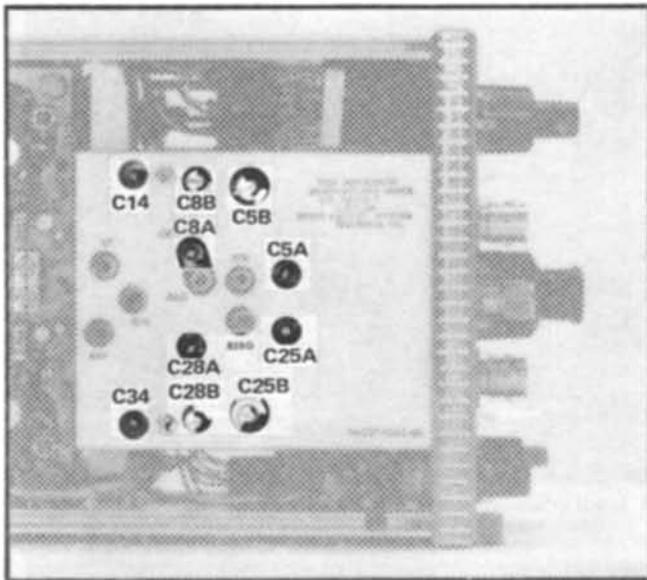
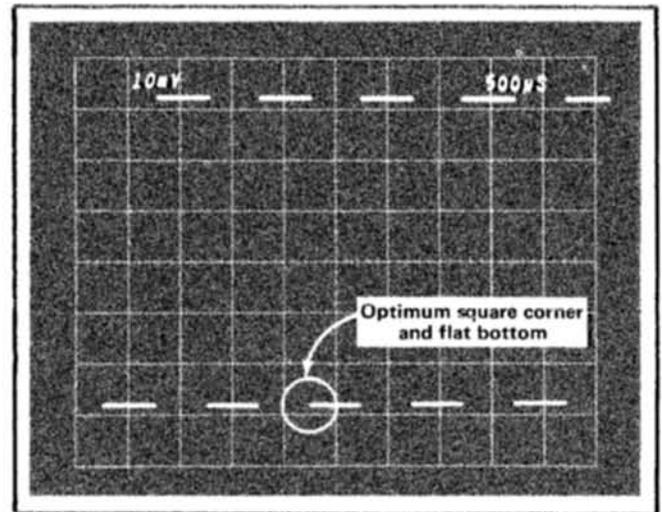

Fig. 5-13. Adjustment locations used in the Attenuator Compensation Adjustment procedure.
Fig. 5-14. Checking for optimum — INPUT waveform at sweep rate of 0.5 ms/div.
Fig. 5-12B through 5-12E are some waveform examples obtained when the adjustments were misadjusted. Fig. 5-13 shows the location of the adjustments.
h. CHECK—The waveform should have a flat bottom as illustrated in Fig. 5-14. Aberrations should not exceed $\pm 1\%$ or ± 0.06 division for a 6 division peak-to-peak display.
i. ADJUST—The — INPUT shunt capacitance C34 and the attenuator adjustments listed in Table 5-6 for a square lower front corner and flat bottom (see Fig. 5-14). The procedure used here is similar to the procedure used in performing step 18. Fig. 5-13 shows the locations of the adjustments.